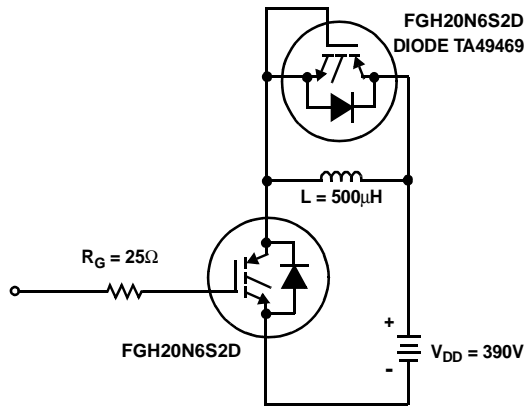

Figure 26. Inductive Switching Test Circuit
| E_{ON1} | Turn-On Energy (Note 1) | Test Circuit - Figure 26 | - | 25 | - | μJ |
| E_{ON1} | Turn-On Energy (Note 1) | Test Circuit - Figure 26 | - | 20 | - | μJ |
1. Values for two Turn-On loss conditions are shown for the convenience of the circuit designer. E_{ON1} is the turn-on loss of the IGBT only. E_{ON2} is the turn-on loss when a typical diode is used in the test circuit and the diode is at the same T_J as the IGBT. The diode type is specified in figure 26.